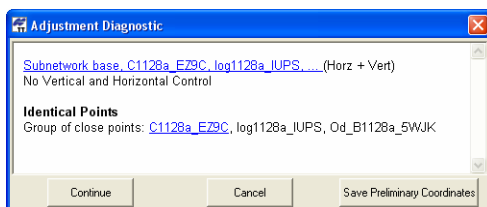

Figure 6-18. Messages After Searching of the Identical Point
- A failed test is where the difference is less than the values set in the **Job Configuration** dialog box. The network adjustment process will be interrupted and the **Adjustment Diagnostic** dialog box will display (Figure 6-18).